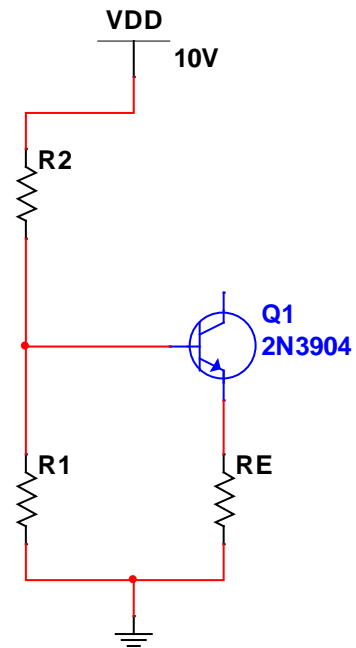

Figure 6. Collector disconnected.
5. Plug Q1 into the breadboard, connecting its base to the node between R1 and R2, and connecting its emitter to the Gnd rail through the RE that you have chosen. Leave the collector unconnected for the moment, as shown in Figure 6.